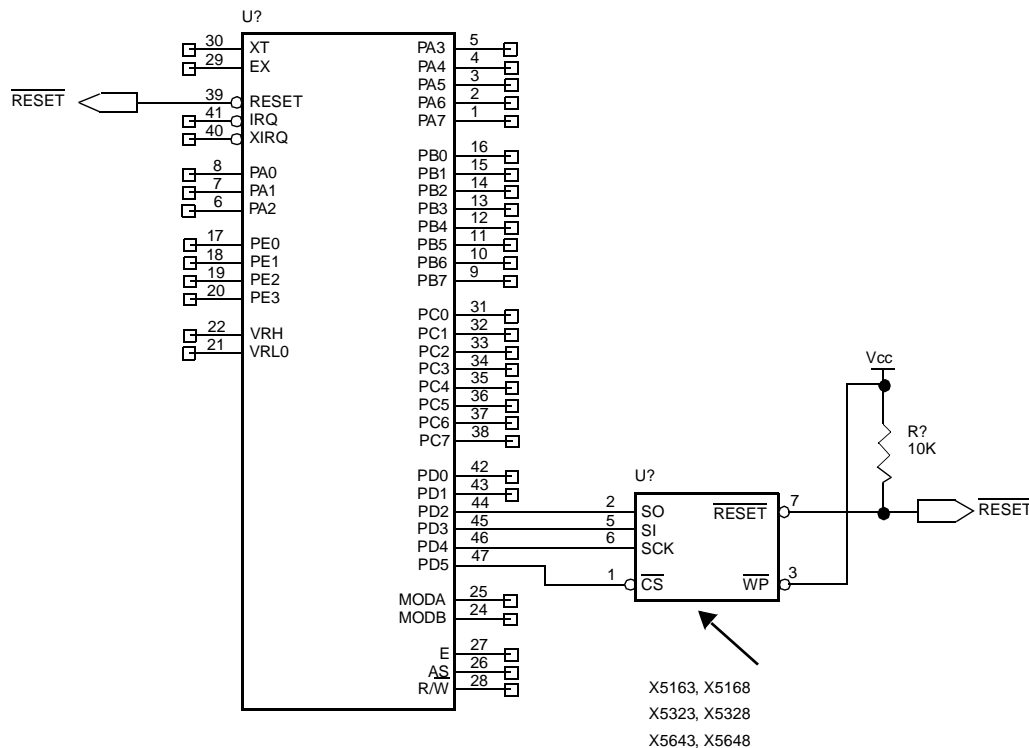

Figure 1. Interfacing the Xicor CPU Supervisors to the 68HC11 Microcontroller using the SPI Port
The following code demonstrates how Xicor's CPU Supervisors with EEPROM can be interfaced to the 68HC11 microcontroller when connected as shown in Figure 1. The circuit uses the 68HC11's built-in SPI port with the PD4/SCK pin connected to the serial clock (SCK), the PD3/MOSI pin connected to serial data in (SI), the PD2/MISO pin connected to serial data out (SO), and the PD5/PCS0/CS pin connected to chip select (\overline{CS}). The SPI interface of the CPU Supervisors operate at 2MHz, so the